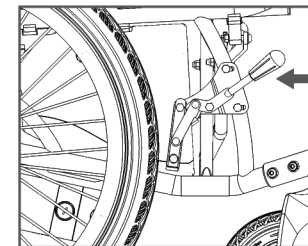

Figure 21
- When you stop on an incline, if the electromagnetic brake breaks down or the motor is in the "Manual" position or other special conditions occur, you can pull the hand brake in the direction as shown in Figure 21.